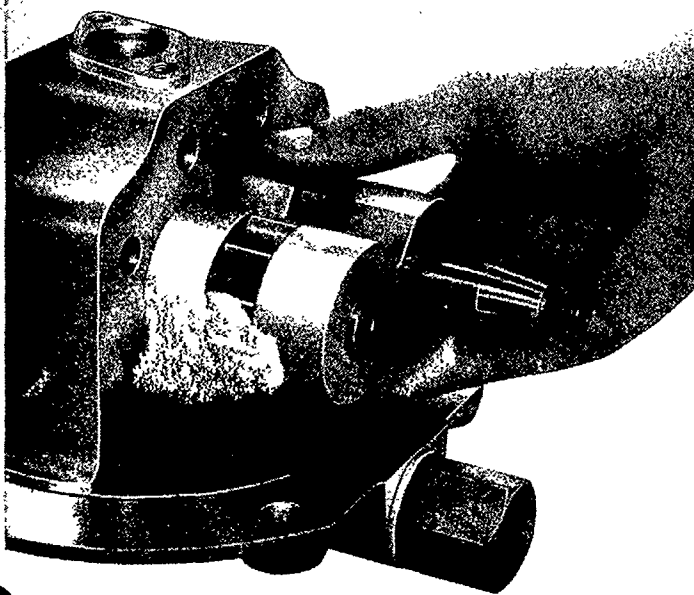

Figure 98
4. Install the bearing and gear assembly in the pump body with the threaded end of the pressure driving shaft in the position shown in Figure 98, and with the deepest grooves in the bearings adjacent to the inlet port of the pump.